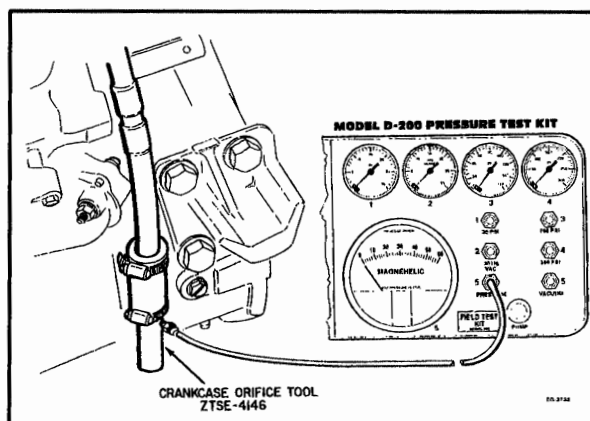

Figure 2.3-15. – Crankcase Pressure Test
4. Connect a line from the restrictor tool (Figure 2.3-15) to a water manometer or to the pressure side of the magnehelic gauge on the D-200 Pressure Test Kit (ZTSE-2239). **NOTE: Install a quick connect plug in the vacuum port of the gauge to vent it to atmosphere.** (Make sure that the magnehelic gauge has been zeroed)